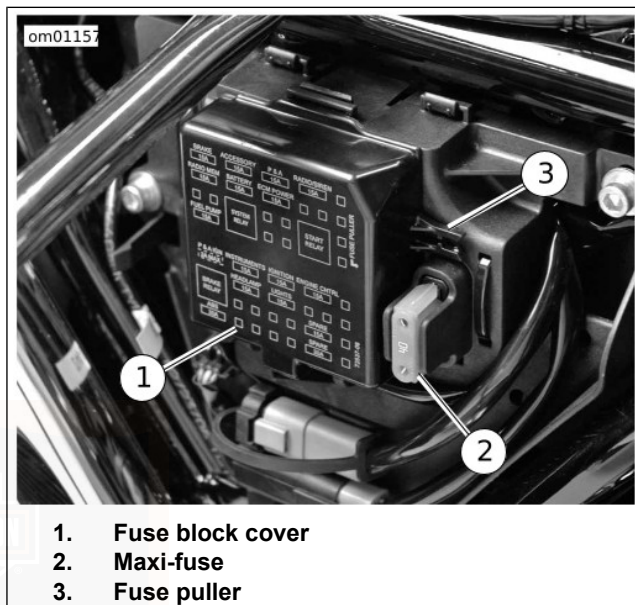

Figure 75. Left Side Cover Removed: Touring Models
See Figure 75. Removal of side covers during electrical service requires no tools. Gently pull side cover to remove. Align barbed studs on side cover with grommets in frame and push to install.
3. See Figure 75. Press latch on bottom of fuse block cover and swing bottom of the cover out. Remove the cover.